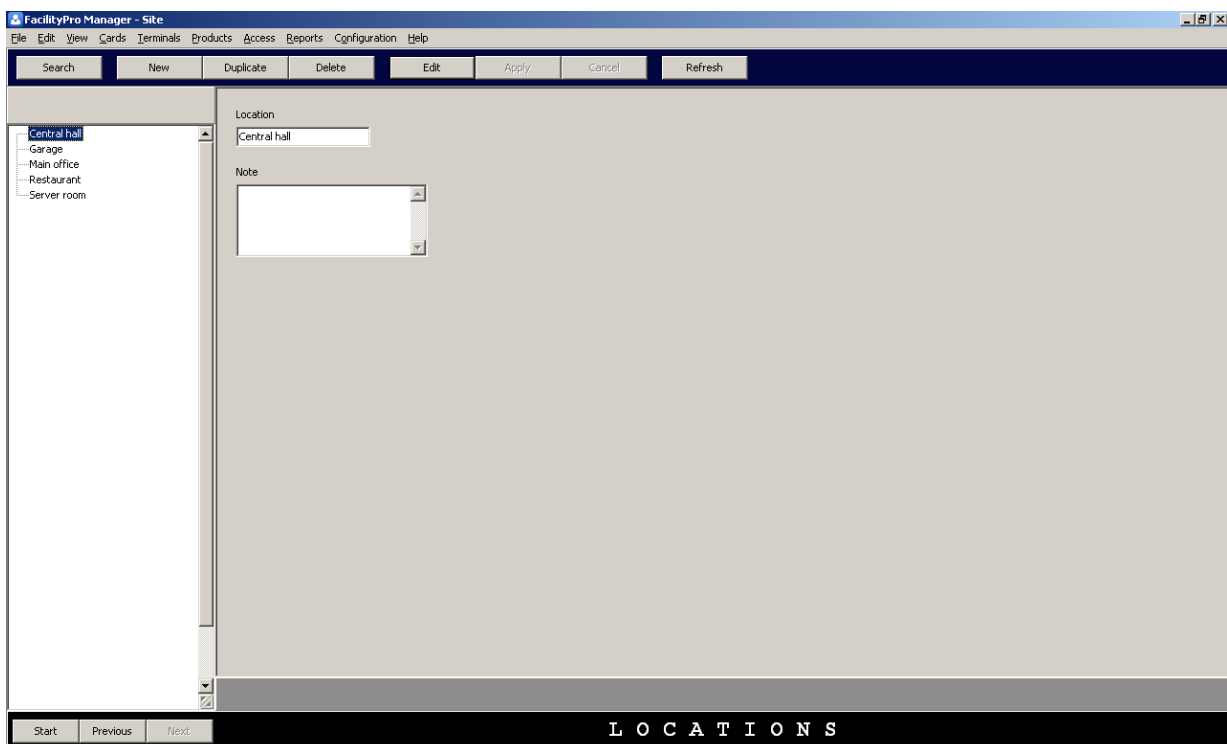

Figure 4-23 The locations data screen
2. Choose **Locations**, and if a sub-menu appears choose **Locations** again. You will see the locations data screen (Figure 4-23).